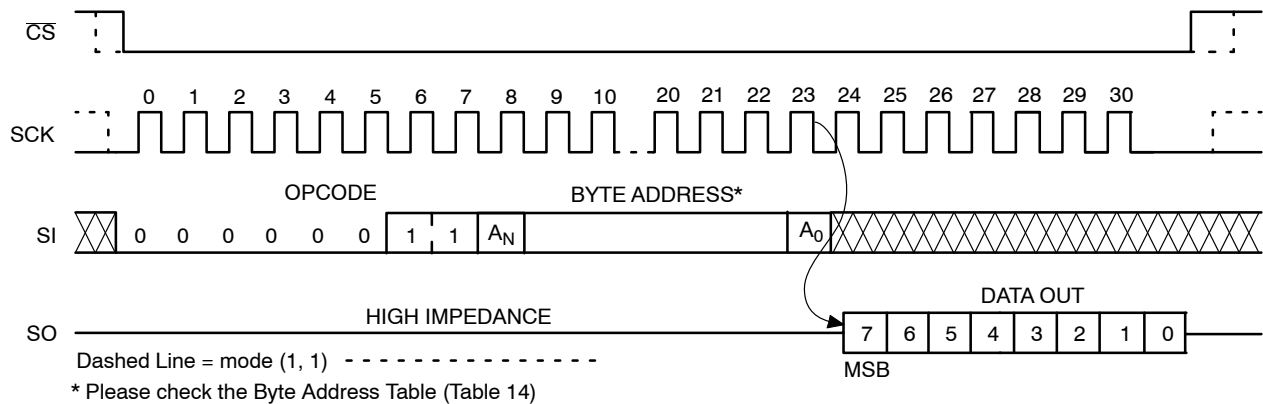

Figure 9. READ Timing
After receiving the last address bit, the CAT25128 will respond by shifting out data on the SO pin (as shown in Figure 9). Sequentially stored data can be read out by simply continuing to run the clock. The internal address pointer is automatically incremented to the next higher address as data is shifted out. After reaching the highest memory address, the address counter “rolls over” to the lowest memory address, and the read cycle can be continued indefinitely. The read operation is terminated by taking  $\overline{CS}$  high.
Reading the additional 64-byte Identification Page (IP) is achieved using the same Read command sequence as used for Read from main memory array (Figure 9). **The IPL bit from the Status Register must be set (IPL = 1) before attempting to read from the IP.** The [A5:A0] are the address significant bits that point to the data byte shifted out on the SO pin. If the  $\overline{CS}$  continues to be held low, the internal